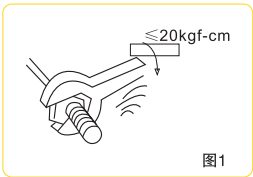

图1
- Mounting for thread type :Don't twist the torque too hard (Fig.1)